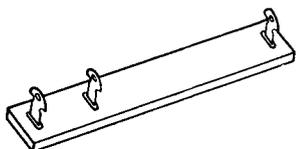

FIG. 18-20. A line voltage-dropping resistor.
**Replacement notes on line dropping resistors.** When a line dropping resistor of the type pictured in Fig. 18-20 is replaced, the serviceman should try to get an exact replacement. When this is not obtainable, mounting and space requirements and the possibility of harming nearby parts by heat dissipation make it advisable to replace the unit with a